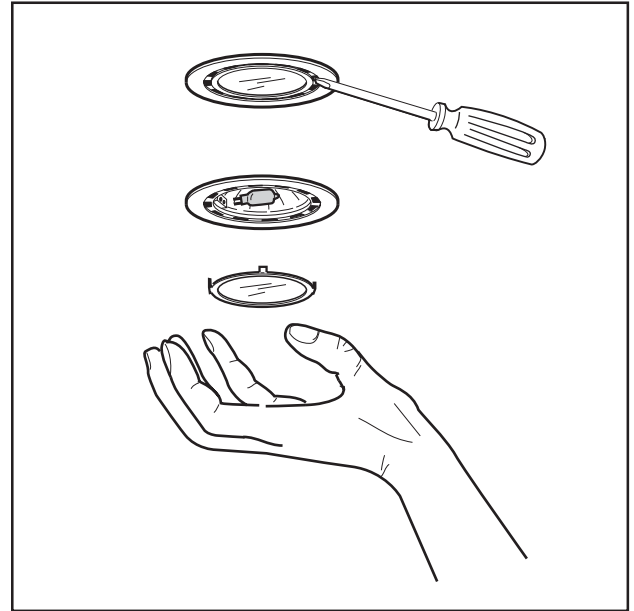

Figure 4
- Using a flat edge from a screwdriver or equivalent tool, pry loose the lens cover as shown in Figure 4.